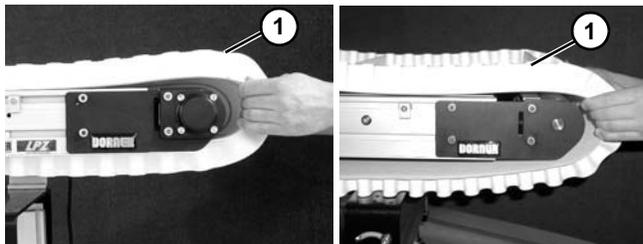

Figure 27
- Remove belt (**Figure 27, item 1**) from conveyor.